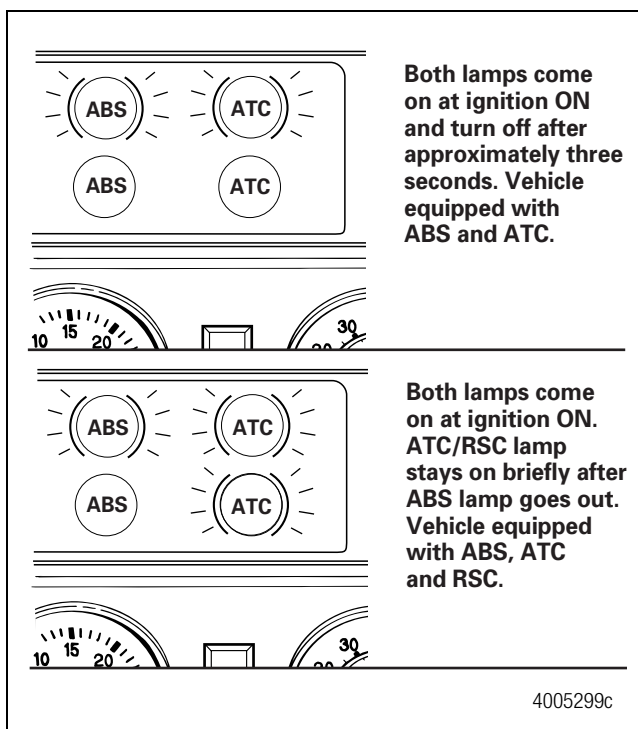

Figure 2.6
- If the vehicle is equipped with ATC, but not RSC, when the ignition is turned to the ON position, the ABS and ATC lamps will light for approximately three seconds, then both lamps will turn off simultaneously. Figure 2.6.
- If the vehicle is equipped with ATC and RSC, when the ignition is turned to the ON position, the ABS and ATC/RSC will both light . . . but the ATC/RSC lamp will stay lit briefly after the ABS lamp goes out. Figure 2.6.